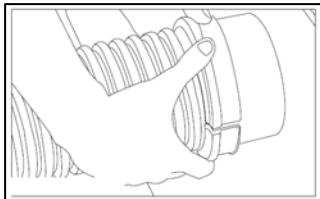

Figure 8
**Step #8 (See Figure 8 and Figure 8A)**